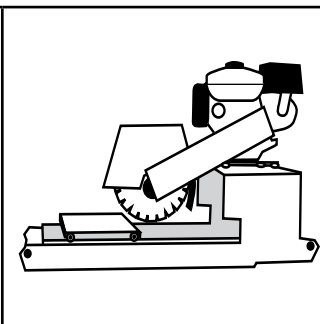

Figure 24. Table Saw
- **Table Saws (Diamond Blade).** (Figure 24) They provide precision cutting, but lack mobility so can be time-consuming. Most saws can run either wet or dry. When water is used, it provides lubrication and reduces wear on the blade. If water is supplied to the saw, anticipating a nearby faucet in planning the job will save delays and money. If possible, use clean water and do not recirculate it as it will likely stain the pavers.